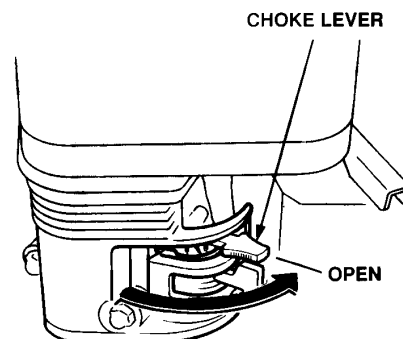

Figure 23. Choke Lever Open
4. Place the **choke lever** (Figure 23) in the "OPEN" position.